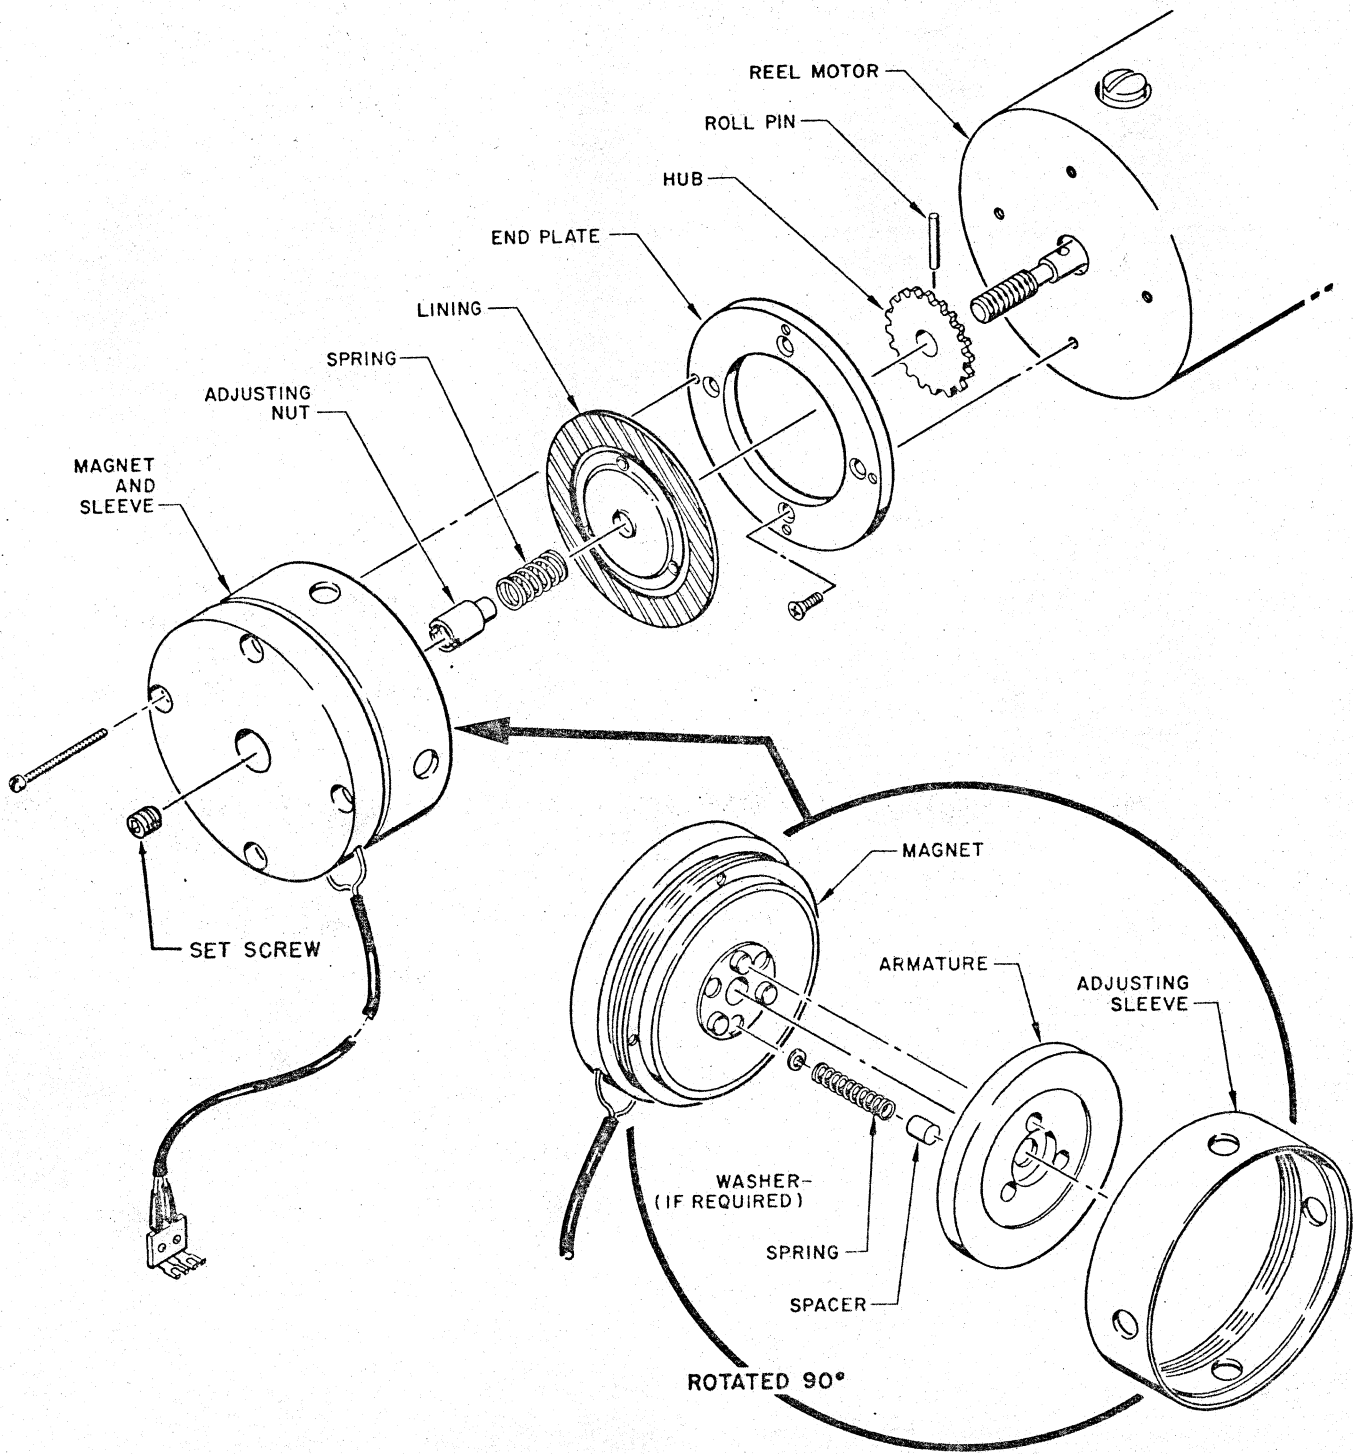

Figure 5-10.
- Step 2: With power applied, remove the four screws from the rear of the brake housing. Remove the brake assembly from the reel motor. (See Figure 5-10.)